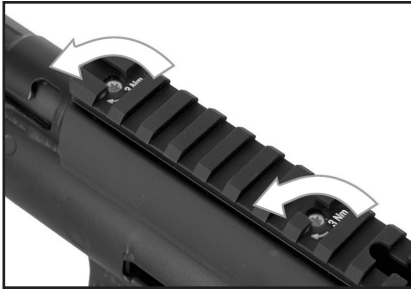

Fig. 41 – Loosen screws
3. Loosen screws for Picatinny rail scope mount by turning counter-clockwise with the torque wrench (Fig. 41).